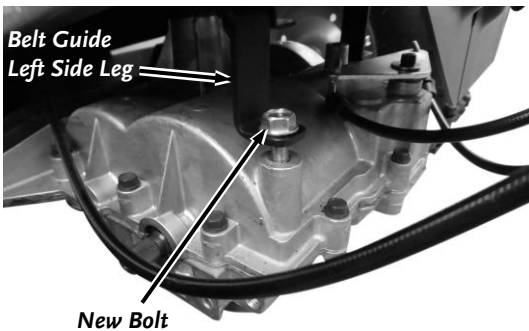

Figure 27
9. Remove the Bolts that secure the Belt Guide to the Transaxle but leave the Belt Guide in place (Figure 27).